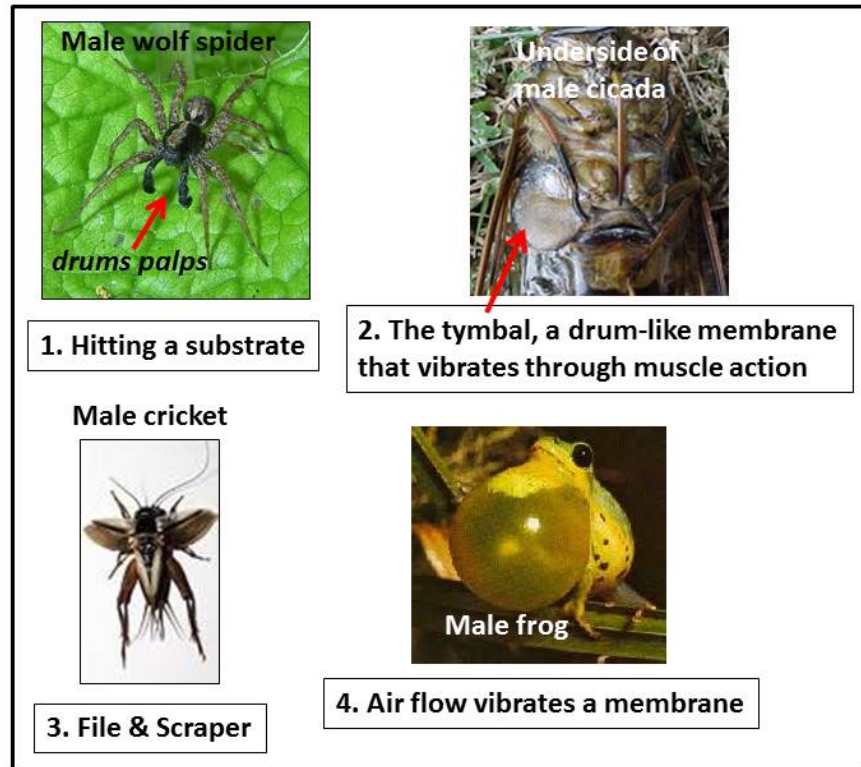

Figure 2. Examples of four sound production mechanisms exhibited in animals
There are four general mechanisms that animals use in producing sounds with different wave patterns (Figure 2).
4. The most complex way that animals produce sound is by **passing air over a vibrating membrane**. This method allows for a rather large variety of sounds to be produced, as both the rate and intensity of the membrane's vibration, as well as the flow of air over the membrane, can be regulated. The courting frog in Figure 2 is using this song production method.
In this exercise you will explore these various sound production mechanisms by making these sounds yourself with various instruments. You will also evaluate sound clips of animals producing sounds. Before you do this, it is important to understand the most important function of sound communication in the animals shown in Figure 2, **courtship signaling**.